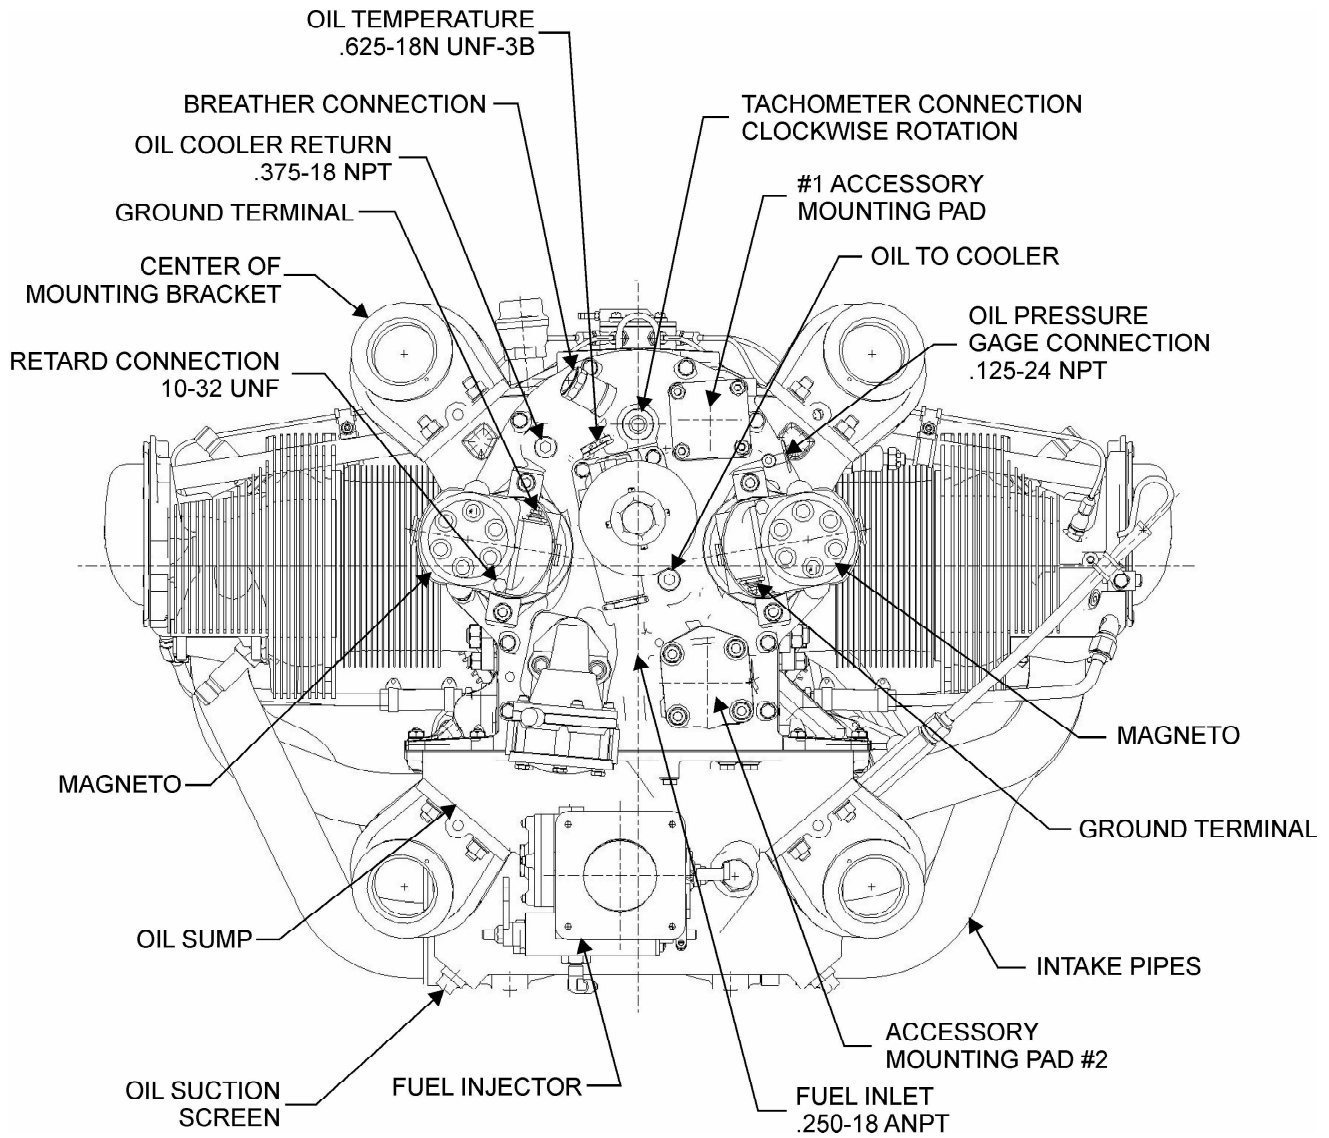

Figure 2-3. Installation, Rear View
- a. Refer to installation drawing, Figure 2-3. Remove cover plate and gasket. When installing the accessory, use the gasket and hardware specified by the airframe manufacturer. Torque to the value specified for the thread size in the Table of Limits, IO-540-AF1A5 Maintenance and Overhaul Manual.